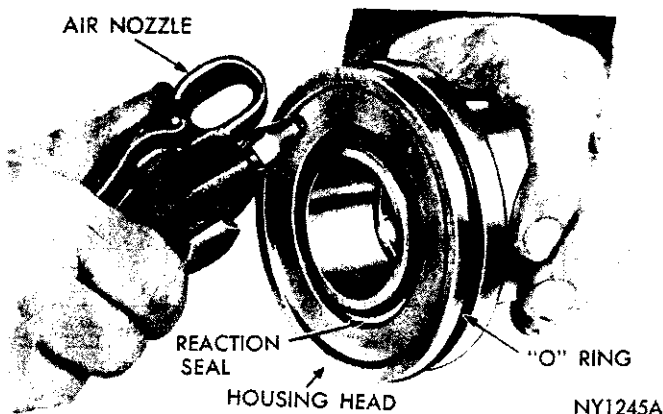

Fig. 15—Removing Reaction Seal From Worm Shaft Support
(12) Remove large "O" ring from groove in housing head.
(13) Remove reaction seal from groove in face of housing head with air pressure directed into ferrule chamber (Fig. 15).
(14) Inspect all grooves for burrs. Make sure passage from ferrule chamber to upper reaction chamber is unobstructed.
(15) Remove reaction spring, reaction ring, worm balancing ring and spacer.
(16) Hold wormshaft from turning, then turn nut with sufficient force to release staked portions from knurled section and remove nut.